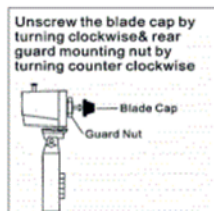

fig. 1
5. Loosen the blade cap by turning clockwise and rear guard mounting nut by turning counter clockwise. (Fig1)